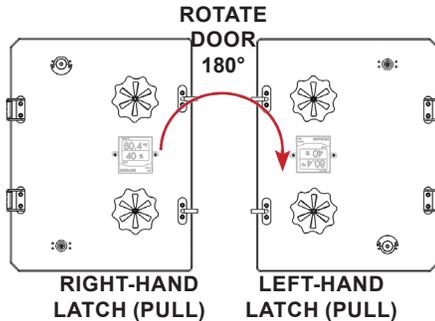

FIGURE 3.15 - Rotate Door
STEP 1: Rotate the door 180° about the face so that the hinge bushings are located on the right hand side of the door. See FIGURE 3.15 & 3.16